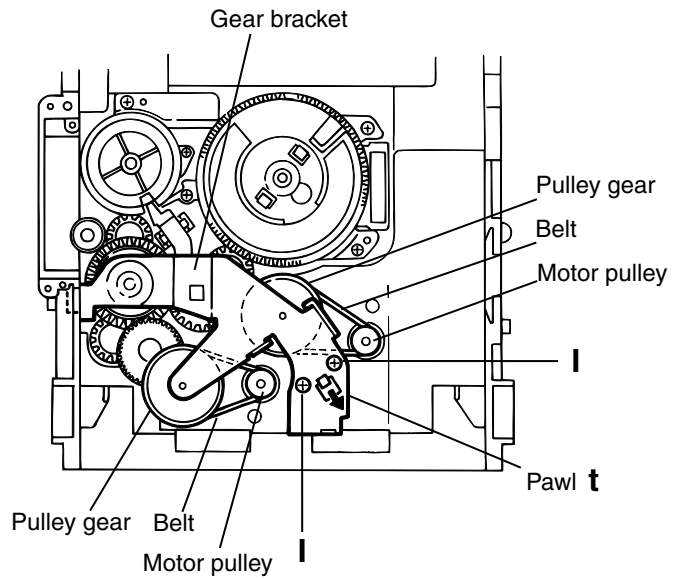

Fig.18
4. While turning the cam gear "q", align the Paul "s" position of the select lever to the notch position(Fig.18) on the cam gear "q".
5. Remove the four screws **H** retaining the cam unit(cam gear "q" and cams R1/R2 assembly)(See Fig.18).
(See Fig.18~21)
(See Fig.18).
4. Remove the belts respectively from the right and left actuator motor pulleys and pulley gears(See Fig. 18).